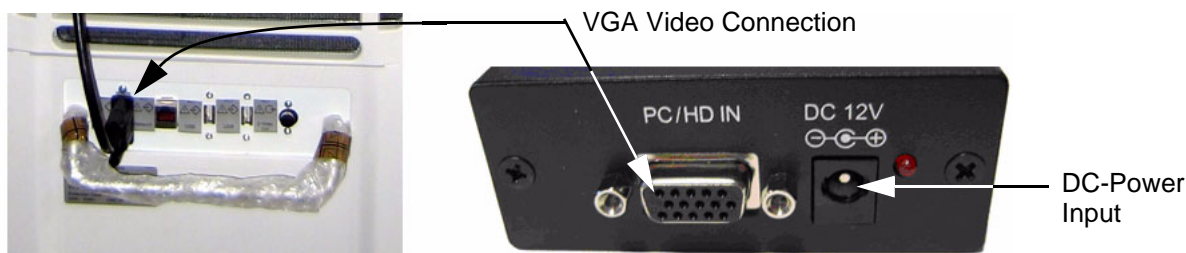

Figure 8-29 VGA Video Connection
- 4.) Connect the RGB Video Cable from the **VGA Out** Connector (on Voluson E8 / Voluson E6 system) to the **PC/HD IN** Connector on the Image Resizer Box (see: Figure 8-29 below).
- 5.) Connect the DC-Power Output from the Power Supply to the DC-Power Input at the Image Resizer Box (see: Figure 8-29 above).